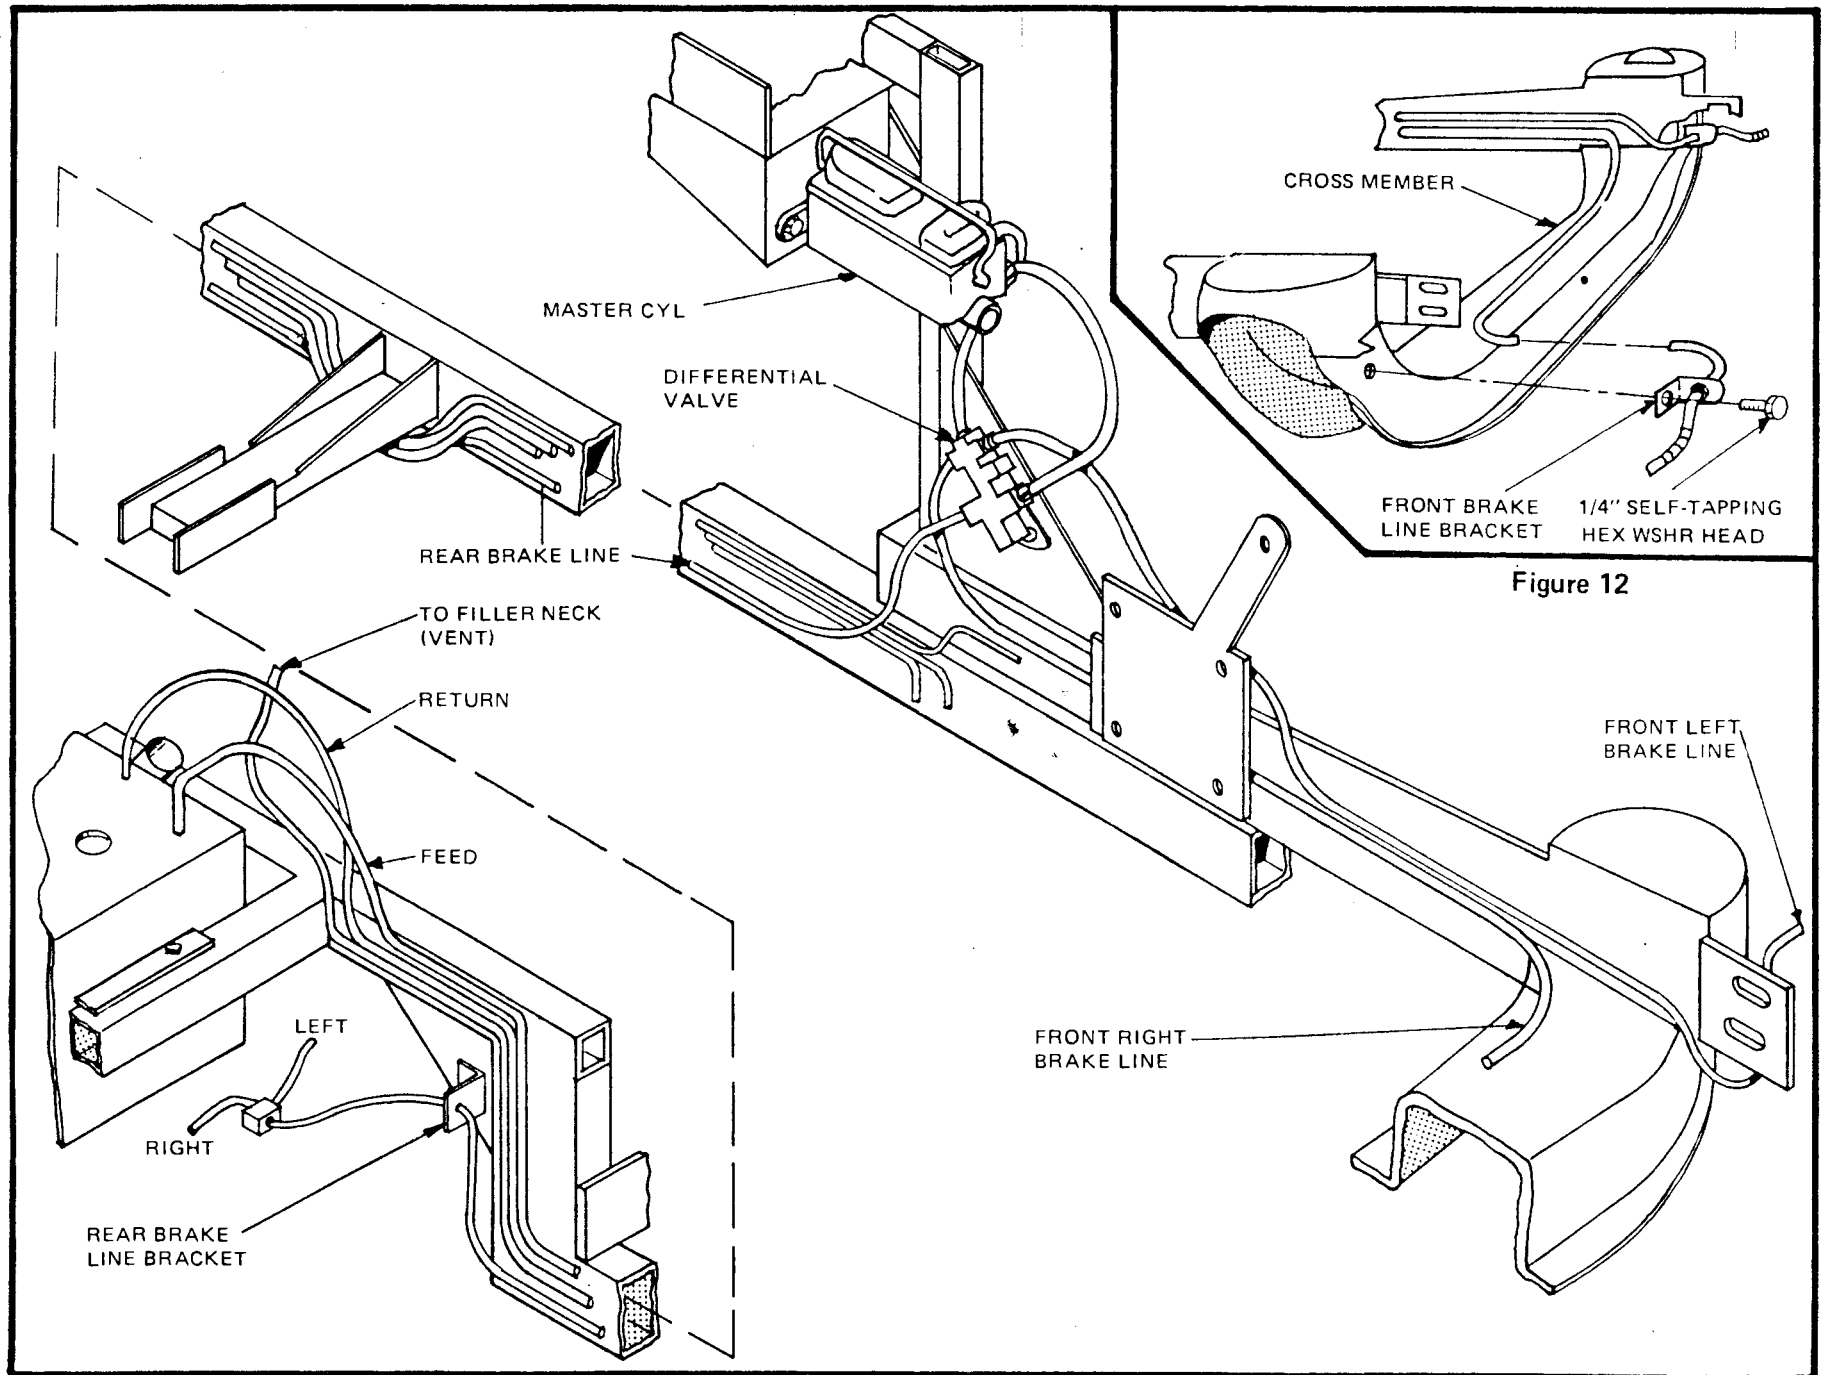

Figure 13
- Route all lines along main frame member on left side of car. Termination of lines should roughly coincide with illustration. For fuel lines, exact locations are not important, as final connection will be made with neoprene hose. Attach to frame using the original fasteners removed from the Pinto and self-tapping screws. (Figure 13)